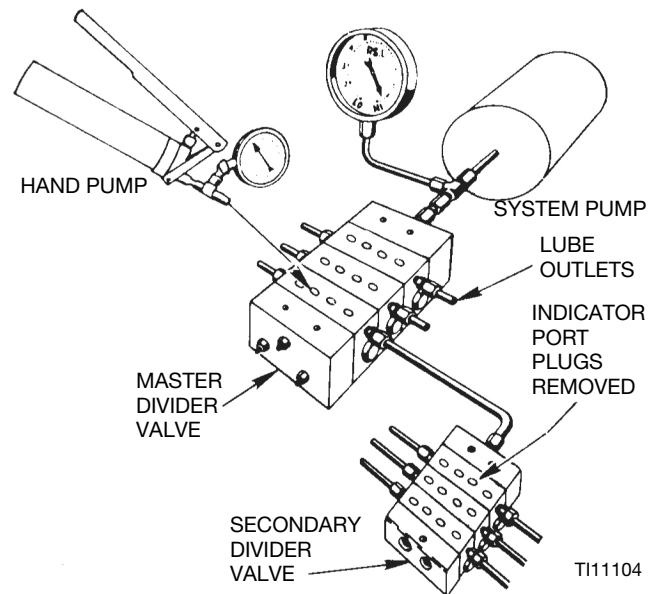

FIG. 13
5. If during step 4, a blockage is indicated downstream of the master divider valve, install a manual pump in the indicator port of the master divider valve that is common to the blocked area. (See FIG. 13).